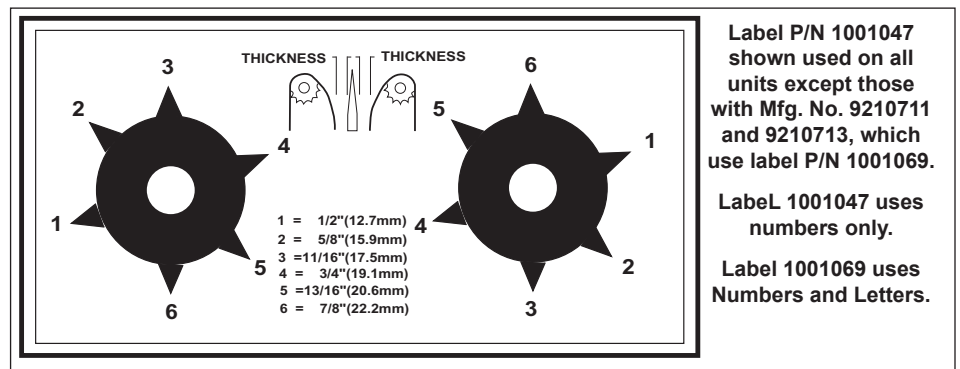

Figure 4. Bun Thickness Compression Knobs
1. Set the Bun Thickness Compression Knobs (Figure 4) to the desired settings.
NOTICE: The Bun Thickness Compression Knobs (Figure 4) must be set to “6 & 6” or “6 & F” prior to measuring or removing or reinstalling the Conveyor Belt Chains.